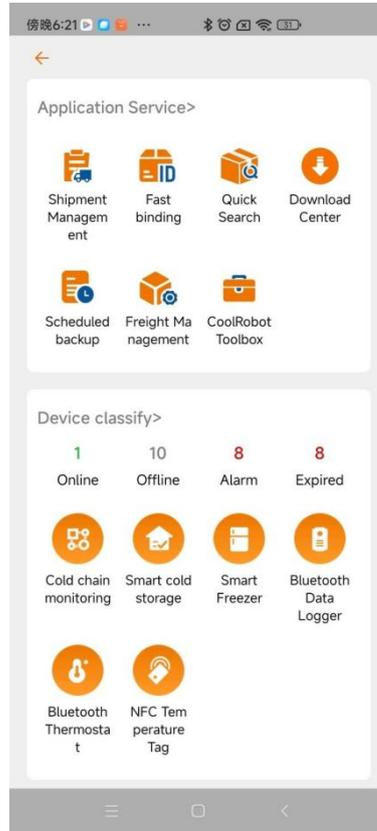

Fig.12 Enter CoolRobot Toolbox
1.Open the "Elitech iCold" App, Log in to your account and enter the main interface of the cloud platform,Click on the "≡" icon in the upper - right corner of the interface, then select "Application Service" --> "CoolRobot Toolbox" (as shown in Figure 12).